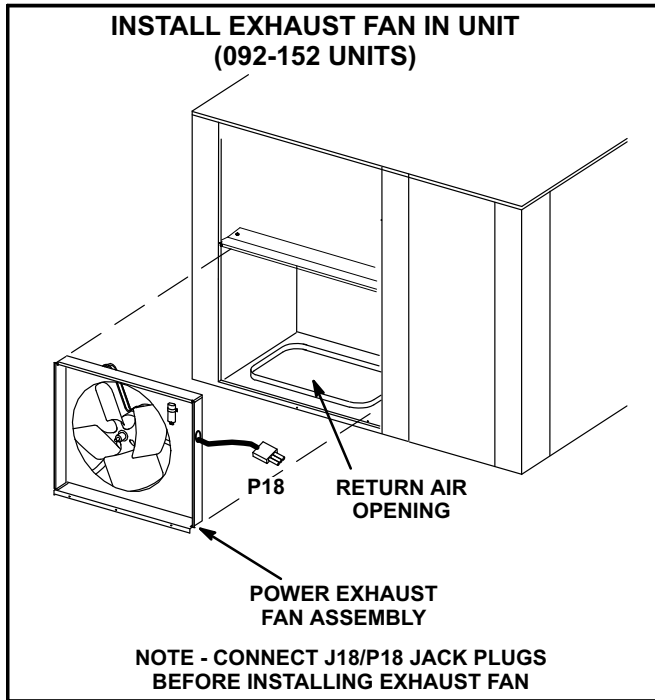
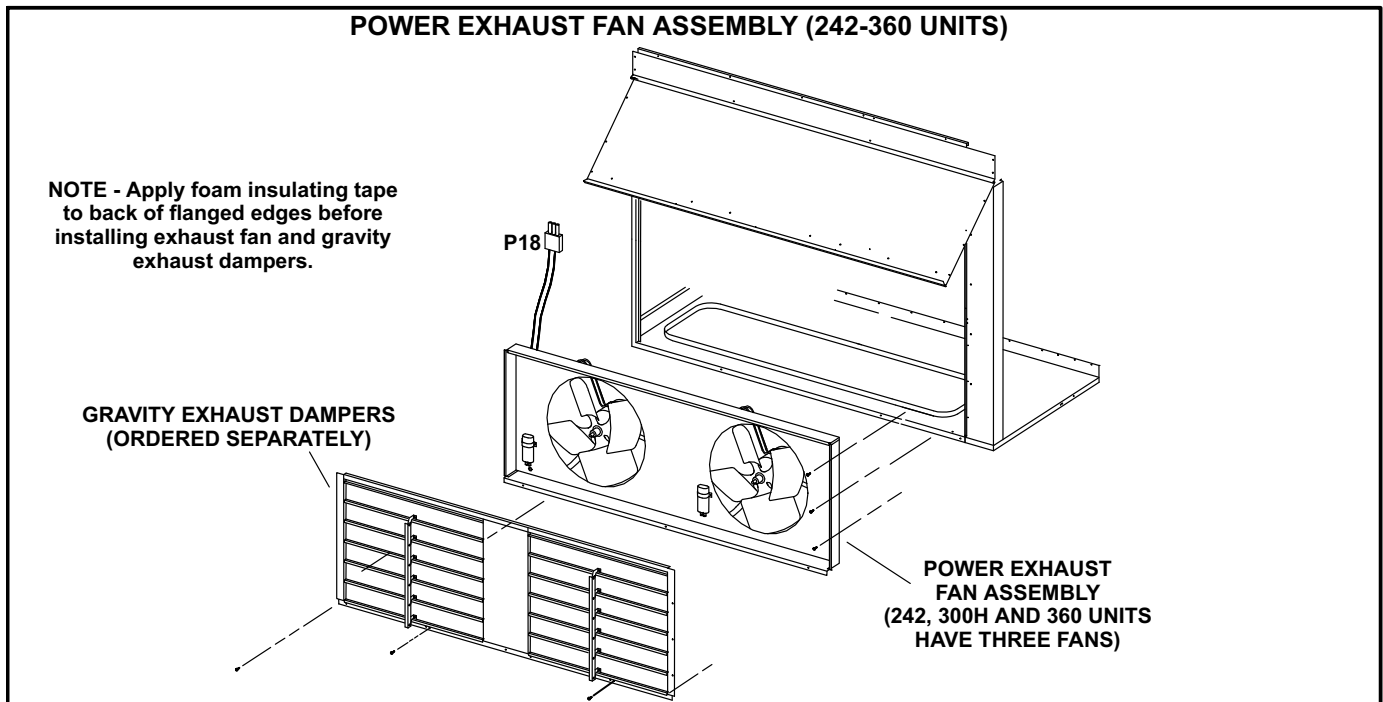

FIGURE 14
FIGURE 16
092/152 Units (refer to figure 14)
- 5- Reach through fan orifice and connect power exhaust fan P18 plug to unit J18 jack. J18 is located on the left side underneath the fresh/exhaust air divider panel. See figure 16.
- 1- Lift the fan assembly into the opening and insert the top side first. Align the top of the assembly inside the flange on the division panel. Secure the bottom of the assembly to the unit with screws provided. See figure 14 for 092/152 units and figure 16 for 242/360 units.